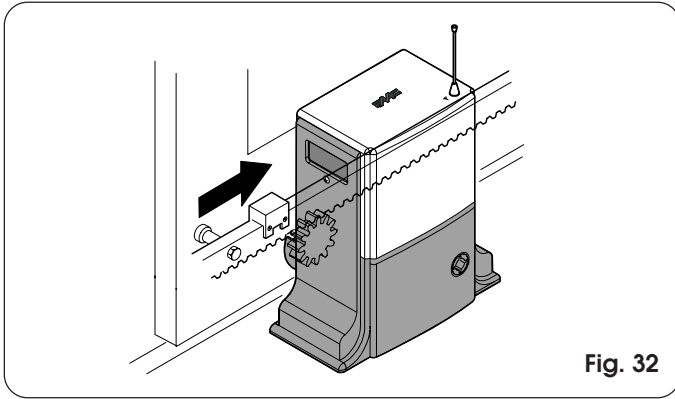

Fig. 32
- Slide the magnet on the rack (Fig. 32) until you see that LED1 on the control board goes off (Fig. 31).